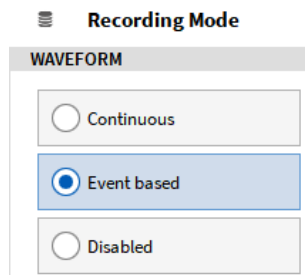

Figure 7-28: Event based waveform Recording selection
- Select *Event based Waveform Recording* as Recording Mode (see Figure 7-28):